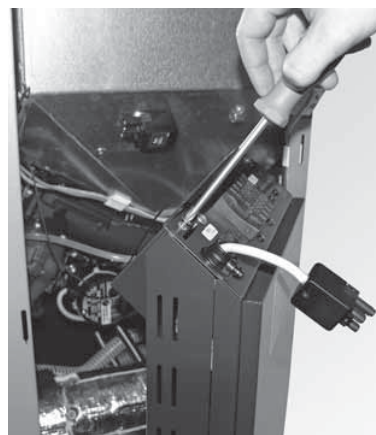

Fig. 47 Removing 2 screws, taking off the inside cover
- Swivel out the control panel, remove 2 screws and take off the inner cover – Fig. 47.